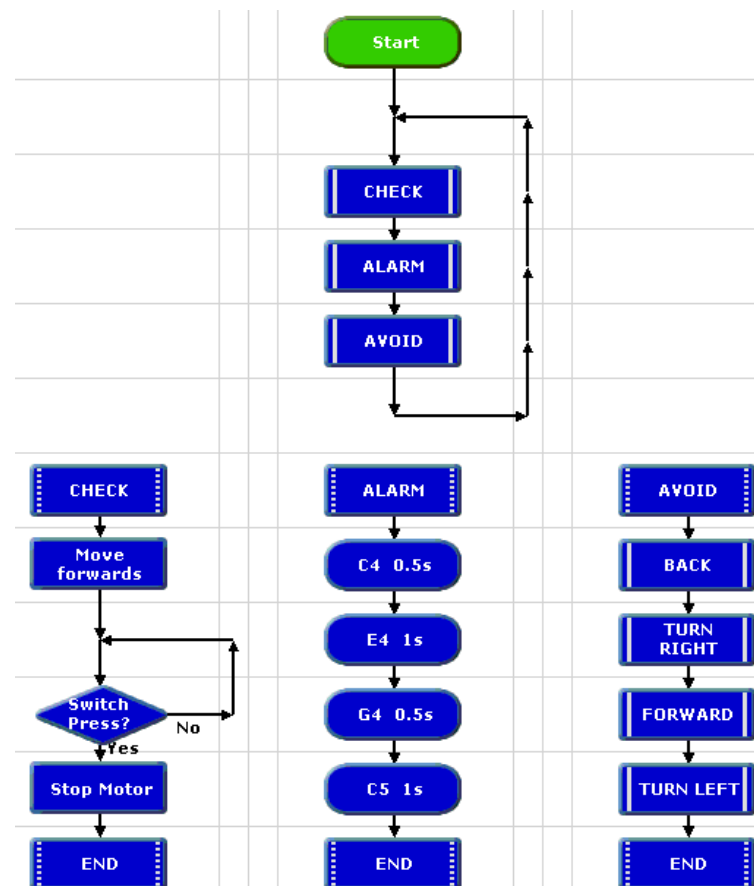

Fig 4.9. Notice that the AVOID procedure uses the top-down approach, so the flowsheet is incomplete at this stage.
2. Then each part of the system is built as a separate procedure as shown in fig 4.9. Each procedure can be test run independently.
3. The AVOID procedure shown in fig 4.9 has been built by using the top-down approach. To clarify the avoiding procedure, each movement is simply listed as a Do Procedure command. Then the details required for the buggy to make each movement can be dealt with separately as shown in fig 4.10.